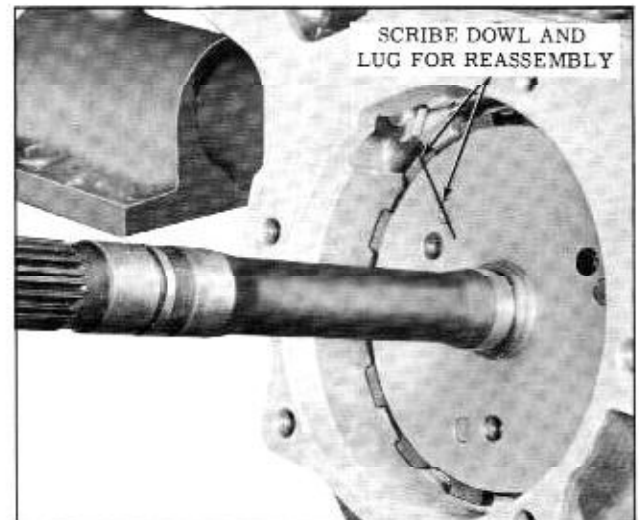

Fig. 3-38 Removing Output Shaft
27. Scribe mark on dowel of carrier and lug of output shaft for alignment on reassembly. (Fig. 3-38)